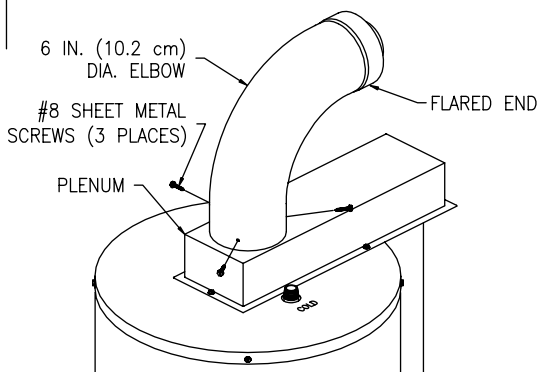

Figure 13
4. For water heaters where the six (6) inch (15.2 cm) diameter elbow is not yet installed:
Place the straight end of the six (6) inch (15.2 cm) diameter elbow over the four (4) inch (10.2 cm) diameter elbow and plenum collar until seated on top of the plenum box. Make certain that the six (6) inch (15.2 cm) diameter elbow is oriented in the same direction as the four (4) inch (10.2 cm) diameter elbow and both are oriented in the correct direction. Drill three (3) 1/8 inch (3.2 mm) diameter holes, 120° apart, through the six (6) inch (15.2 cm) diameter elbow into the plenum collar. Fasten with three (3) #8 sheet metal screws (supplied). (See Figure 13).